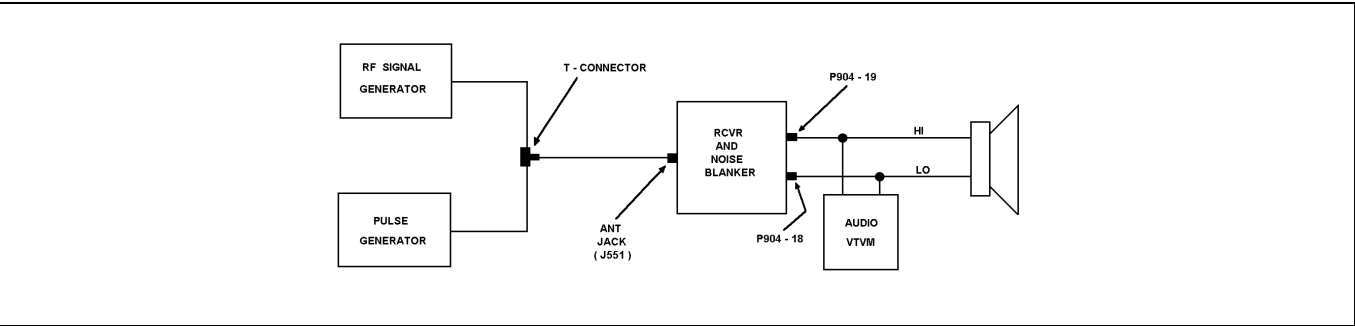

Figure 8 - Equipment Connection Diagram
- Connect Pulse Generator and RF Signal Generator or receiver antenna jack (J551) through a T-Connector, and connect AC Voltmeter to receive audio output (Speaker LO, P904-18, Speaker HI, P904-19) as shown in Figure 8.